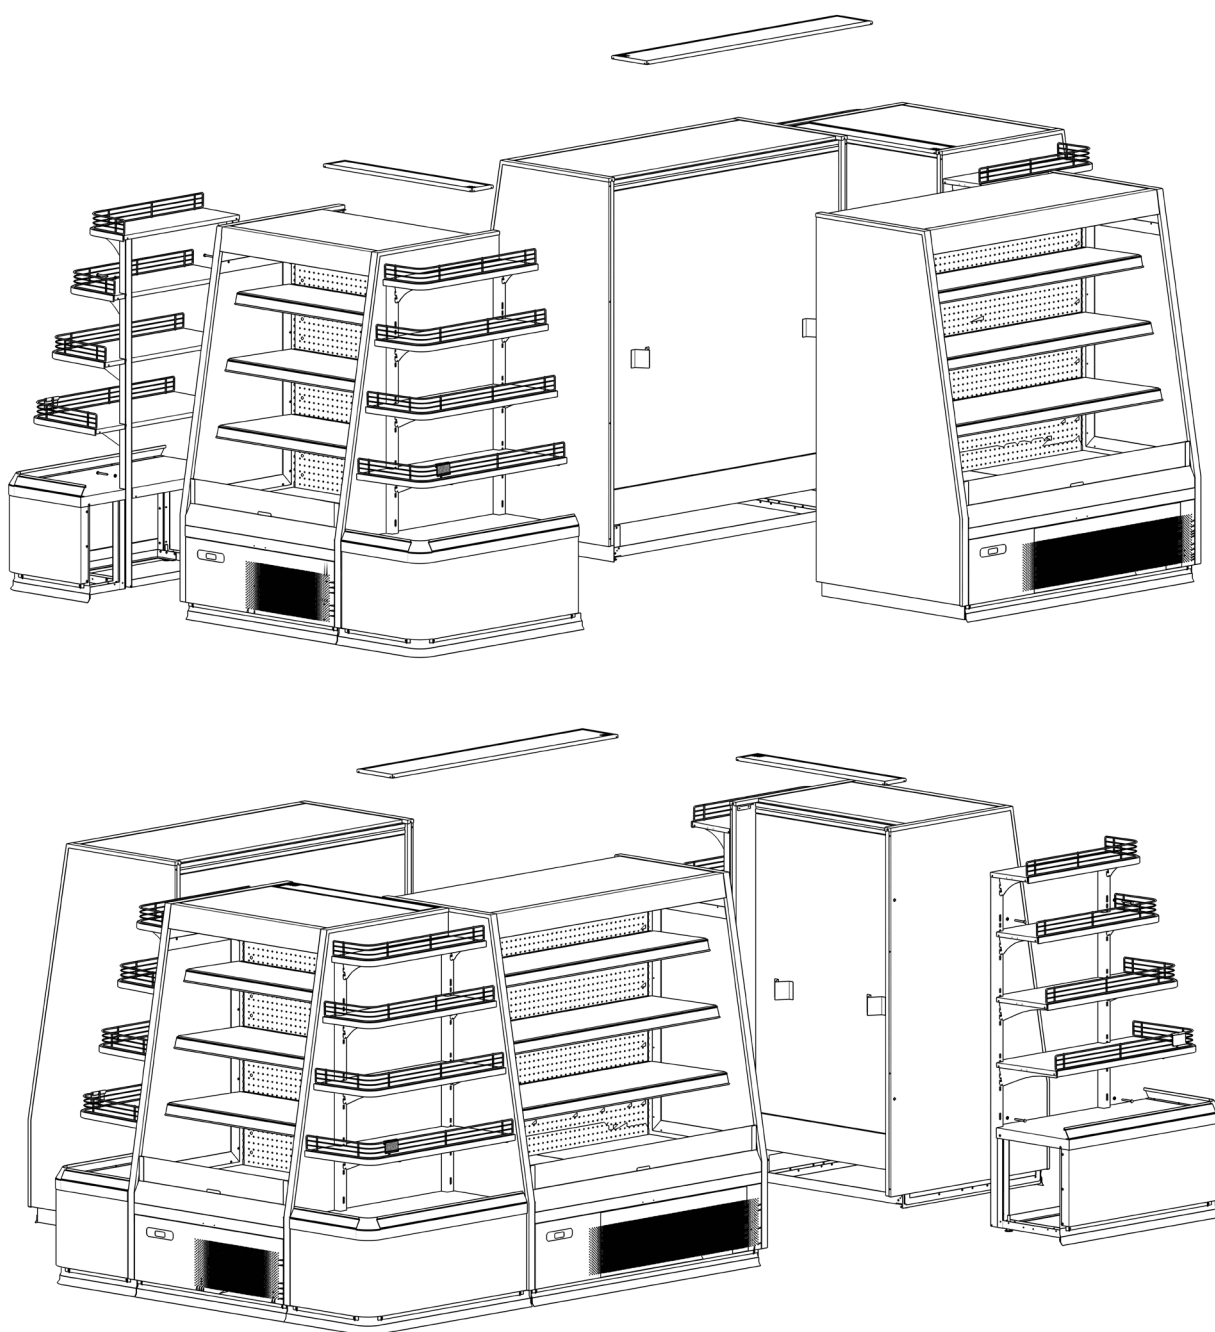

Fig. 23. Assembling multidecks into an island
7. Connect the multidecks to the end multideck (Fig. 23).